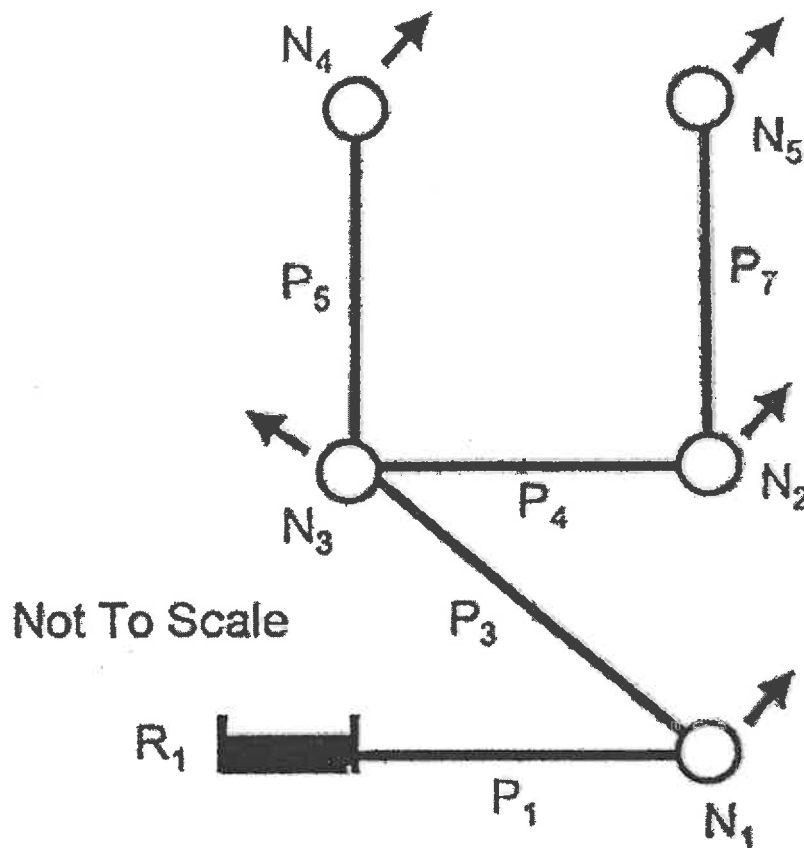

Figure 1. Water supply system.
1. A branched pipe network conveys water from reservoir R1 with constant water level of 110 m to 5 nodes, all at elevation of 45 m (Figure 1). All pipes are made of ductile iron and have a Hazen-Williams 'C' factor of 115, an internal diameter of 452 mm, and a length of 200 m. Nodes 1 through 5 have a maximum day demand of 1.0 L/s. Node 5 also carries a fire flow of 33 L/s.